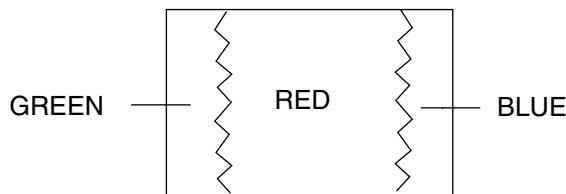

Fig. 5
6. Loosen the Ring Lock and adjust the Purity Magnets so that a red field is obtained at the center of the screen. Tighten Ring Lock. (See Fig. 5,6)